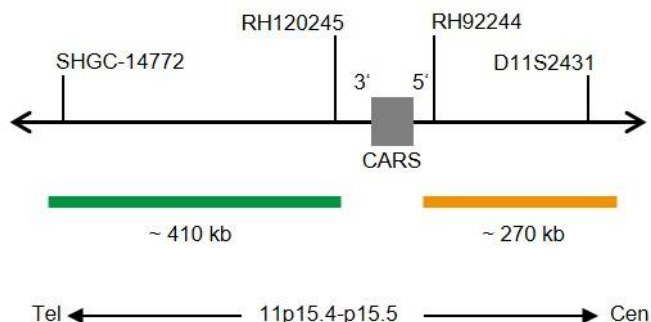

Fig. 1: SPEC CARS Probe map (not to scale)
- ZyGreen (excitation 503 nm/emission 528 nm) labeled polynucleotides (~10 ng/μl), which target sequences mapping in 11p15.4-p15.5* (chr11:2,565,981-2,975,775) distal to the CARS breakpoint region (see Fig. 1).
- ZyOrange (excitation 547 nm/emission 572 nm) labeled polynucleotides (~4.5 ng/μl), which target sequences mapping in 11p15.4* (chr11:3,092,154-3,363,120) proximal to the CARS breakpoint region (see Fig. 1).